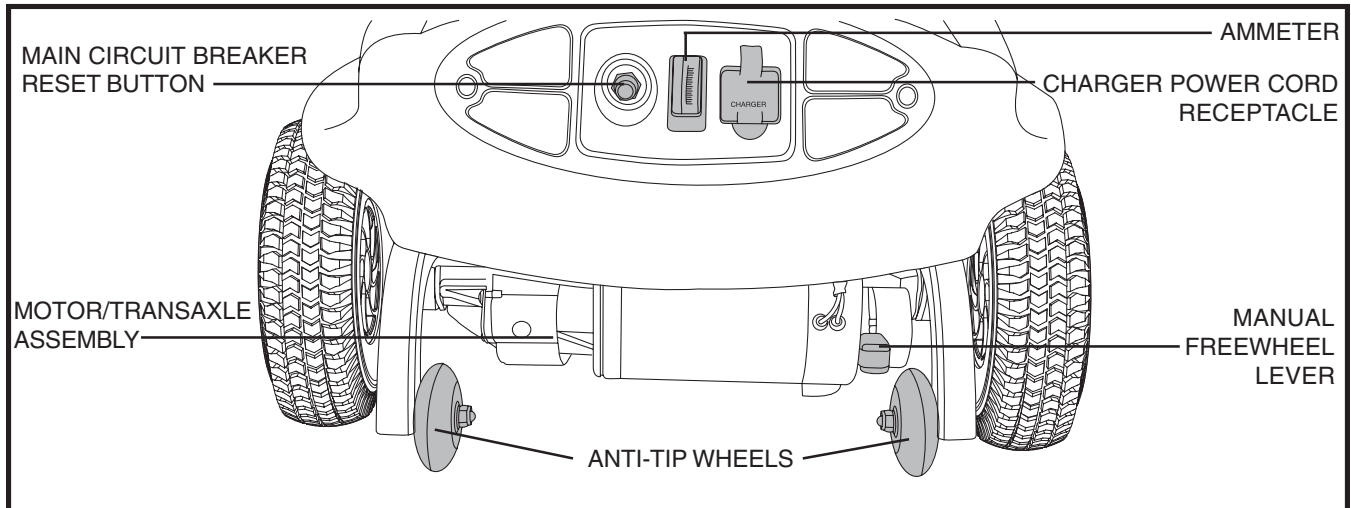

Figure 6. Rear Section
The onboard battery charger (not shown), the charger power cord receptacle, the batteries (not shown), the main circuit breaker reset button, the ammeter, the manual freewheel lever, the anti-tip wheels, and the motor/transaxle assembly are located on the rear section of your Sundancer. See figure 6.
When the voltage in your Sundancer's batteries becomes low or the scooter is heavily strained because of excessive loads or steep inclines, the main circuit breaker may trip to protect the motor and electronics from damage. See figure 6.
- The manual freewheel lever is located on the end of the motor/transaxle assembly at the right rear of the scooter. See figure 6.
The anti-tip wheels are an integral and important safety feature of your Sundancer. Do not, under any circumstances, remove the anti-tip wheels from your Sundancer. See figure 6.